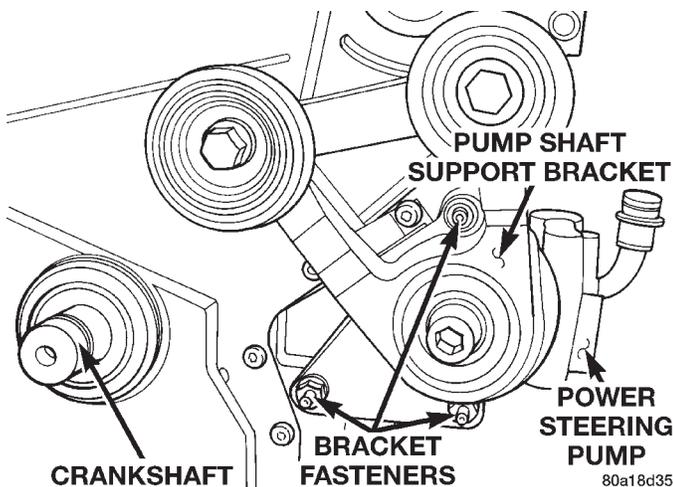

Fig. 40 Pump Shaft Support Bracket
(7) Remove pump shaft support bracket assembly (Fig. 40).